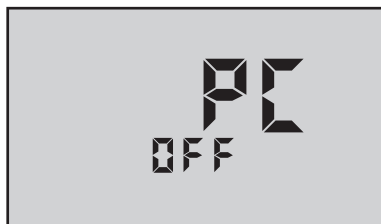

Figure 30
5. Press and HOLD  key until the menu "PC OFF" appears, (see Figure 30).